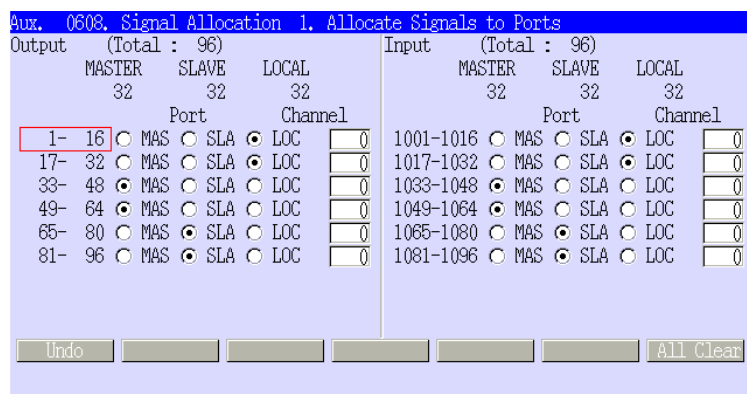

Fig.5.3 Changes of the setting.
- b. Set 0 in all channels as shown in Fig. 5.3, using the <All Clear> key. Change the number of external I/O signals via ZSIGSPEC command. Then, set the signal allocation by [Aux. 0608-1] again.